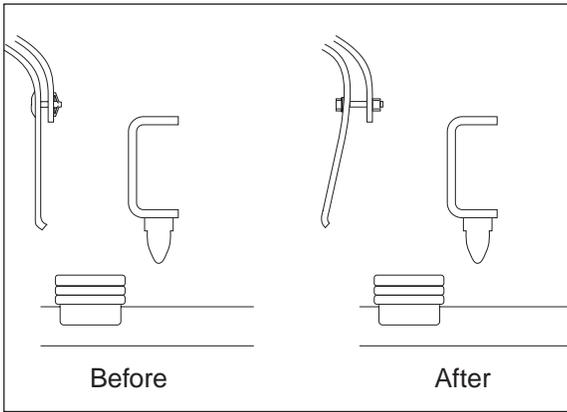

Figure 17
1. If this installation was on a late model 4WD Dodge truck, it is now necessary to reinstall the inner fenderwell liner using the original fasteners and provided spacers to allow for air spring clearance (Figure 17).